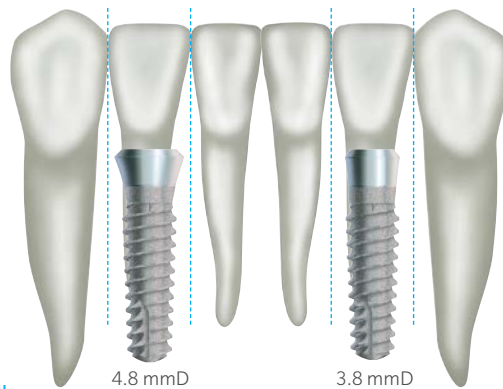

Fig. 4b
- Mesial and distal borders of surrounding coronal contours. Example: In Fig. 4b, the 3.8 mmD platform is preferable to the 4.8 mmD due to mesial distal constraints. At least 1 mm on either side of the platform diameter is minimum requirement for restorative contours.